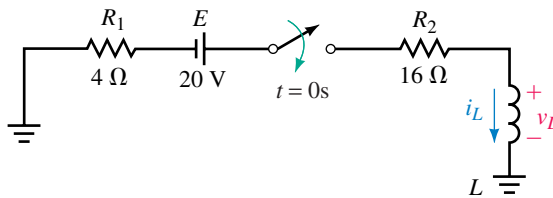

FIGURE 14–41
8. For the circuit of Figure 14–39, determine inductor voltage and current at $t = 50$ ms using the universal time constant curve of Figure 14–10.